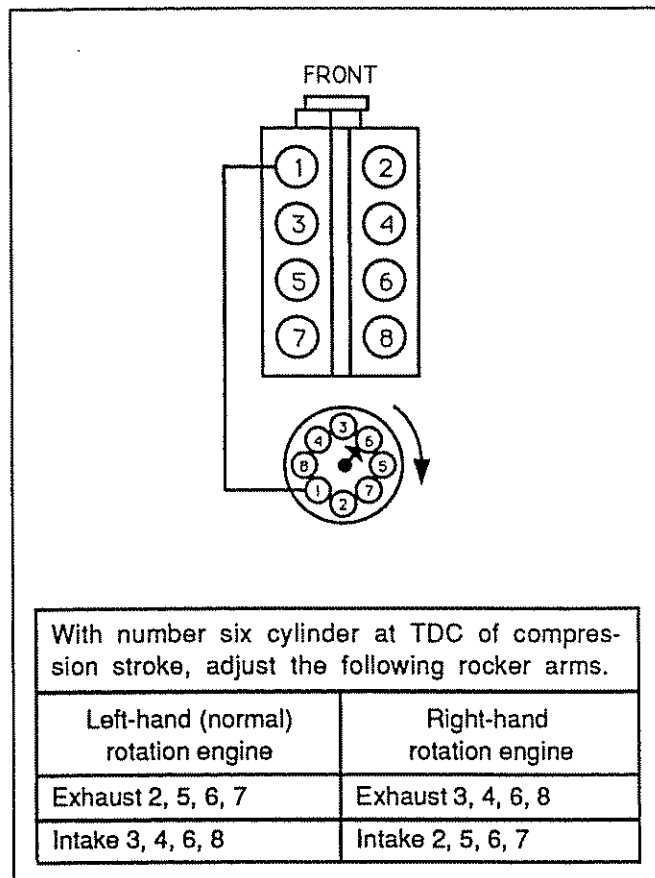

Figure 8-199. Adjusting Rocker Arms With No. 6 Piston At TDC Of Compression Stroke
- Crank engine one revolution until pointer "0" mark and torsional damper mark are again in alignment. This is No. 6-firing position. With engine in this position, the valves indicated in Figure 8-199 may be adjusted as previously outlined.